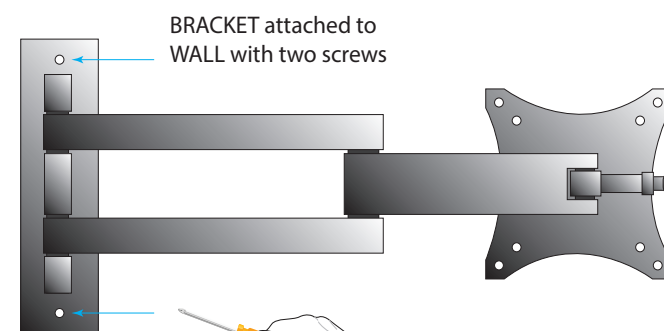

Fig. 1.3
- Mount the bracket to the wall using the necessary hardware (screws and wall anchors or toggle bolts if necessary); see Fig. 1.3.